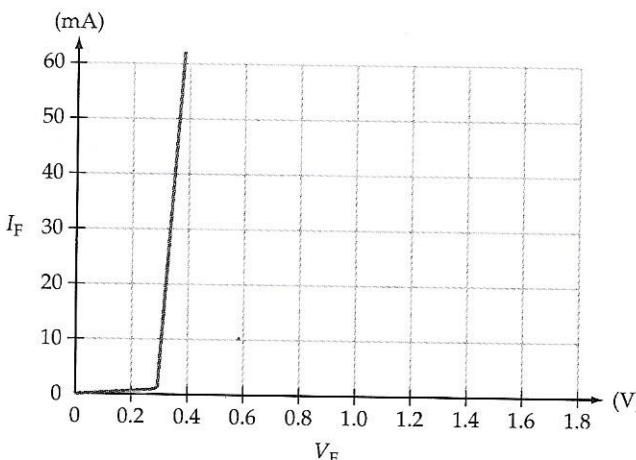

Figure 2-32 Diode characteristics for Problems 2-3, 2-10, and 2-11.
- 2-3** Calculate the static forward resistance for the diode characteristics shown in Fig. 2-32 at a 25 mA forward current. Also, determine the dynamic resistance for the device at $I_F = 25$ mA, using the characteristic and using Eq. 2-2.
- 2-10 A diode which has the characteristics shown in Fig. 2-32 is to pass a 20 mA forward current when the supply is 12 V. Determine the value of resistance that must be connected in series with the diode.